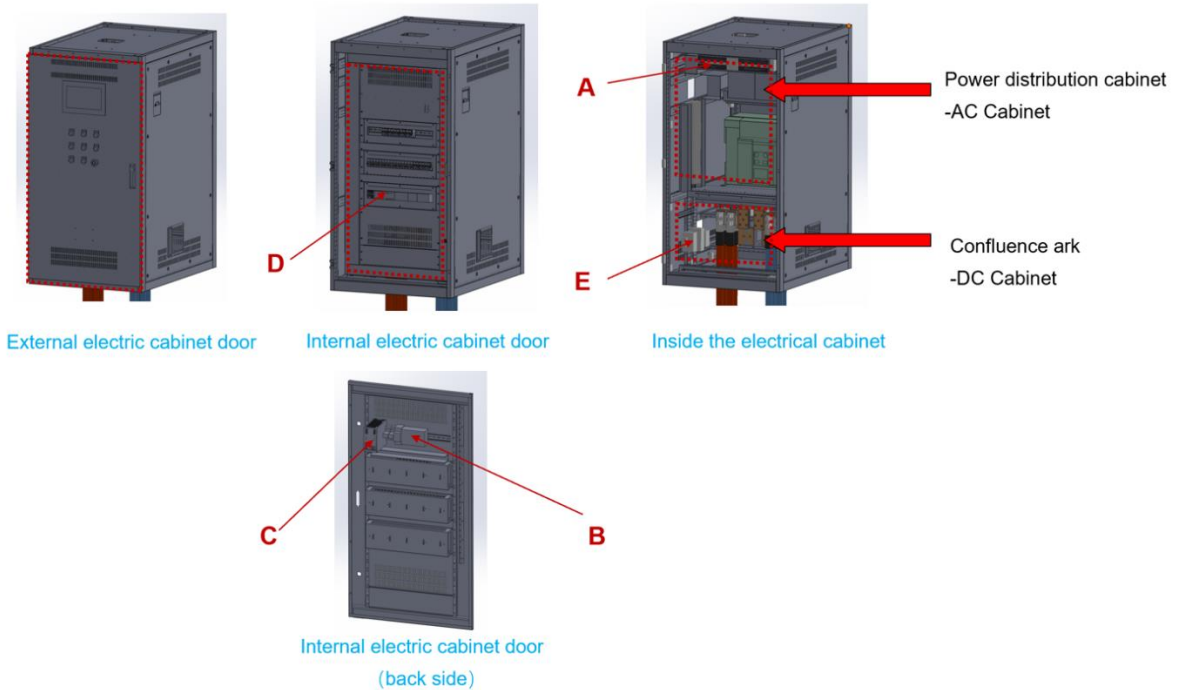

Figure 26-1: Description of power distribution cabinet layout
- ✓ Step 8: Pull signal wires from the project EMS (and other devices) to the SolBank via the location identified in Figure 26-1. Refer to the project specific network diagram, developed by the EOR, for interconnected devices and point-to-point wiring instructions.